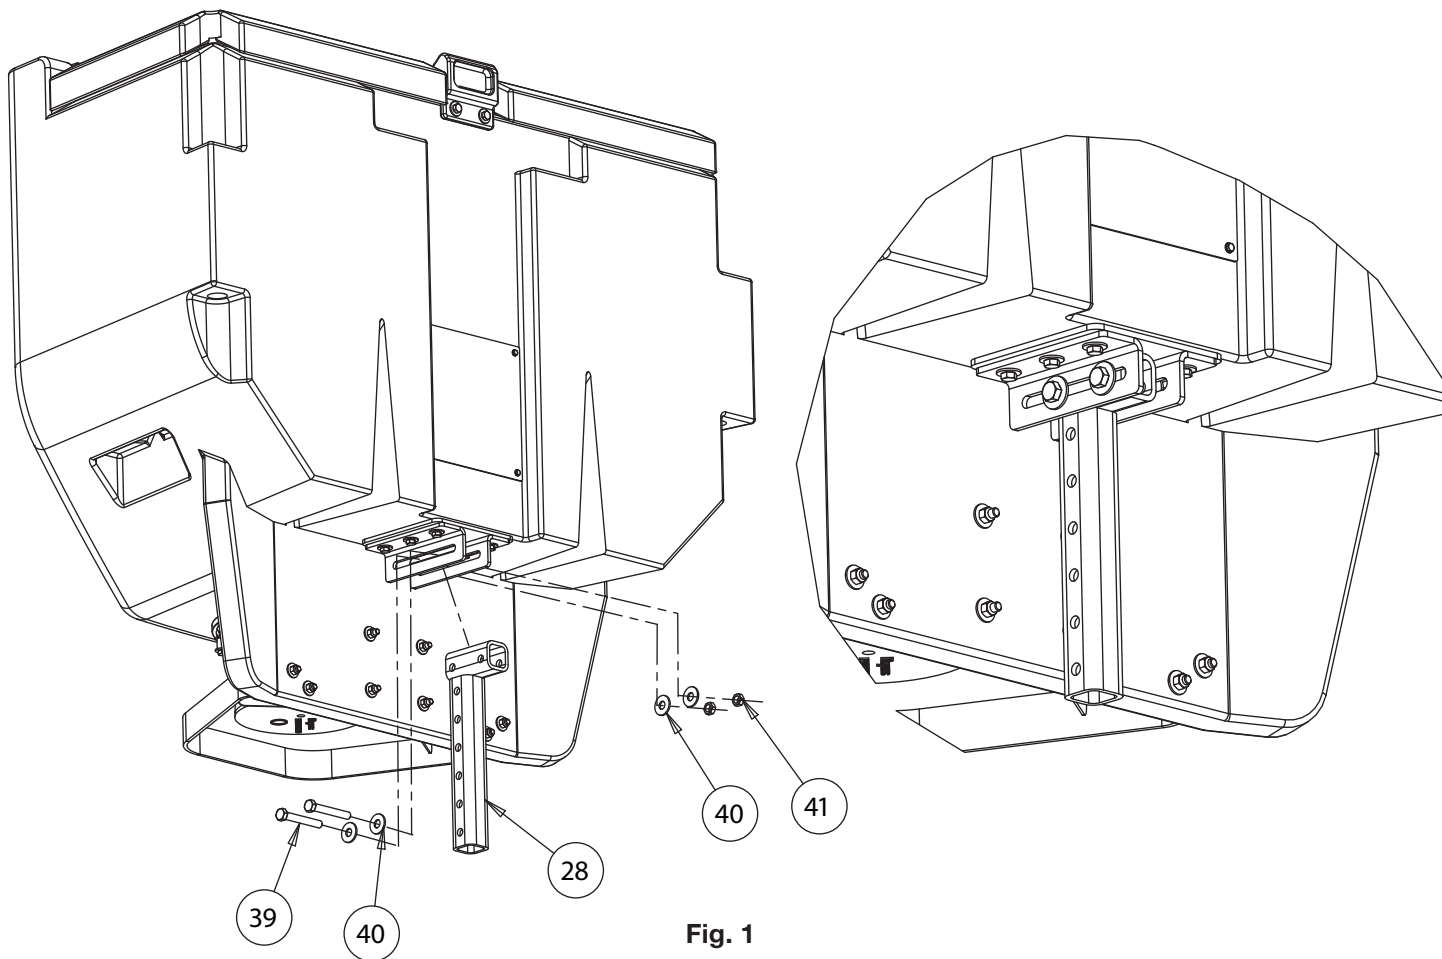

Fig. 1
1. Assemble and install Hitch Adjuster to spreader assembly. Refer to Fig. 1.
- Assemble hardware (2) 1/2"-13 x 3.5" bolts **39**, (4) 1/2" washers **40**, and (2) 1/2"-12 jam nuts **41**.